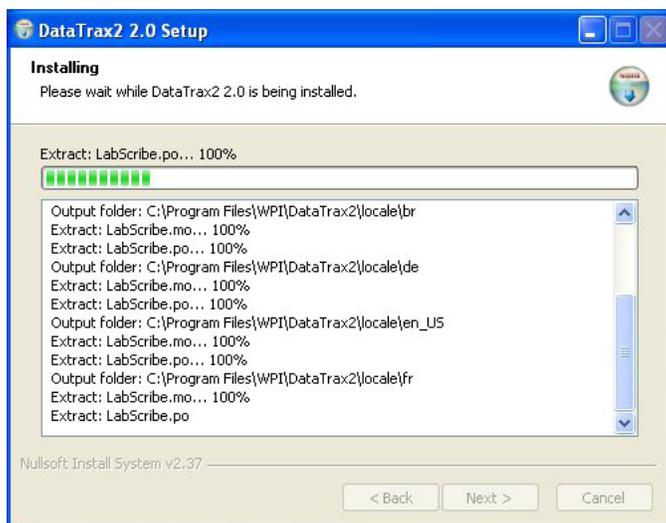

Fig. 23—Install progress
- Accept the default location or click the **Browse** button and select the desired location. Once the location is chosen, click the **Install** button. A window displays briefly showing the progress of the installation (Fig. 23).